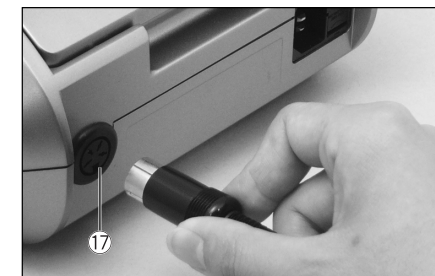

Fig. 4
Insert the foot pedal cord plug into the Foot Pedal Connector ⑰ and align the pin on the plug with the groove on the connector. (Fig. 4)